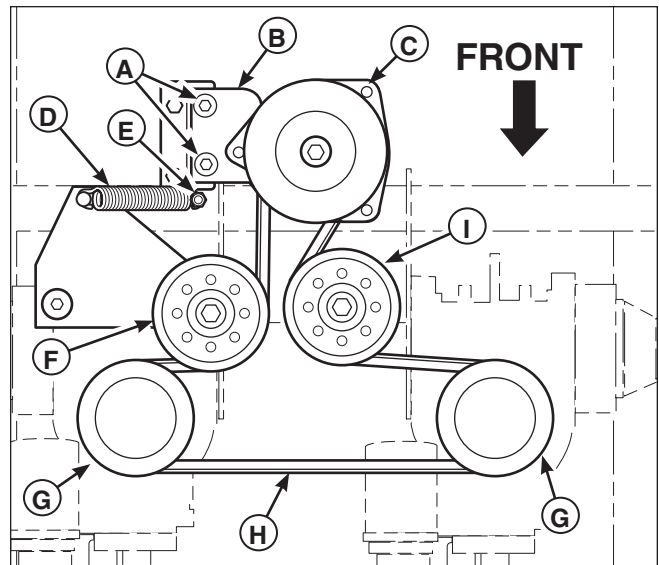

Figure 30. Transmission Drive Belt
2. Remove the clutch anchor bolts (A, Figure 30) that fasten the clutch anchor pad to the anchor.
4. Remove the spring anchor nut (E) and remove the belt tension spring (D).